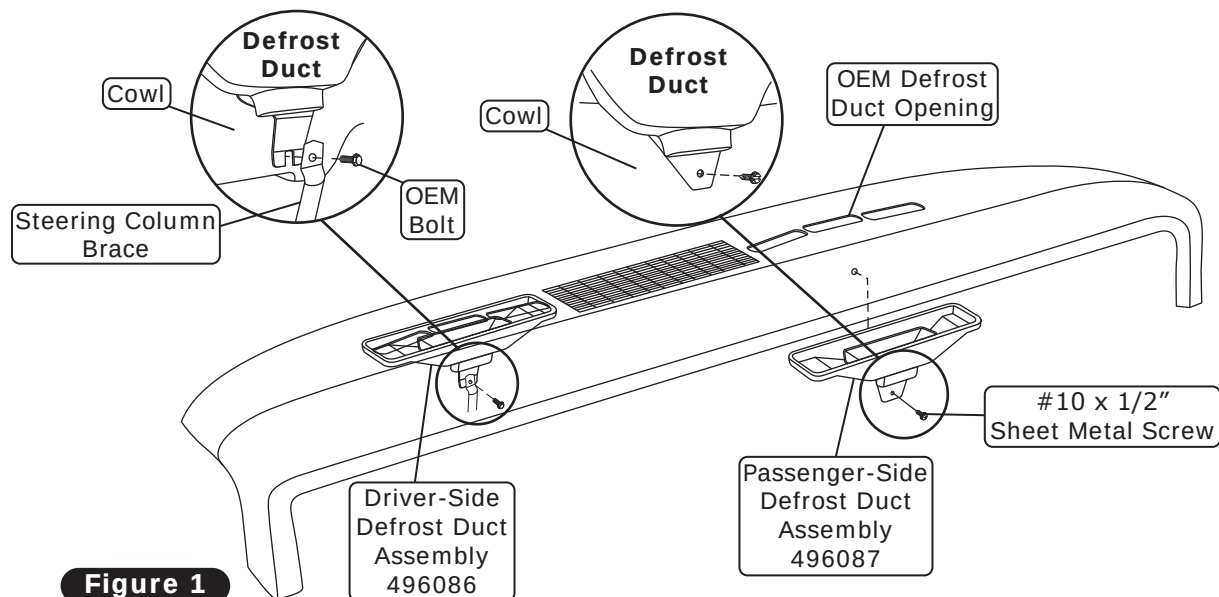

Figure 1
1. Install the defrost ducts under the dash and align them with the OEM openings. Install the passenger-side defrost duct to the cowl using a #10 x 1/2" sheet metal screw (See Figure 1, below). **NOTE: The driver-side defrost duct installs behind the steering column brace, and is secured using the steering column OEM bolt as shown in Figure 1, below.**